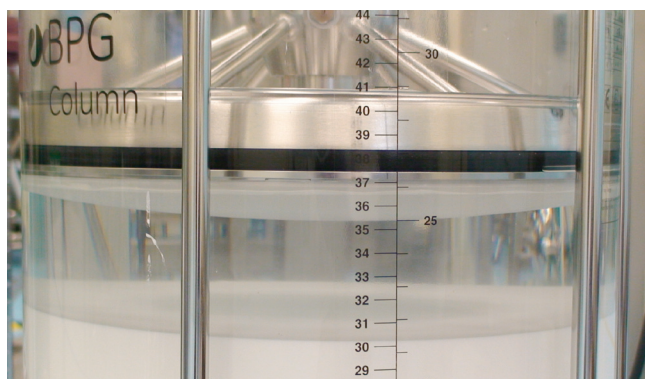

Fig. 6. The bed is consolidating during downflow.
- After the bed has consolidated (Figure 6), stop the flow and close the bottom process valve. There should be no rebound of the bed, because ceramic hydroxyapatite is incompressible. Lower the piston adapter using the height adjuster handle. During this phase, the top process valve must be open for the excess buffer to be purged through it. This procedure reduces or eliminates fluctuations in the flow that is applied to the bed. Lowering the top assembly by hand can be difficult as it requires a significant amount of force. The seal can be loosened slightly to allow for easier movement of the top assembly if care is given to preserve the integrity of the seal